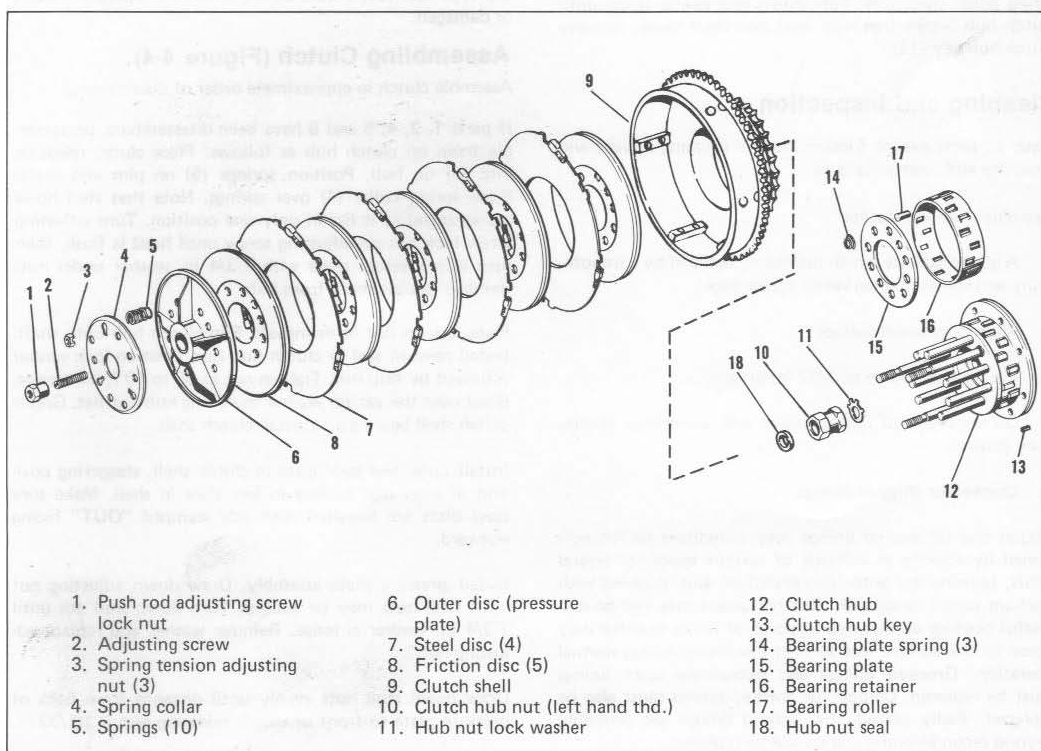

Figure 4-4. Clutch Assembly – Exploded View
DISASSEMBLING CLUTCH (Figure 4-4)
Assembling Clutch (Figure 4-4)
Place oil drain pan under transmission. Remove starter cover nuts (1) and plain washers (2). Loosen clutch adjusting screw (2, Figure 4-4). If transmission is in chassis, remove clutch lever rod from left end of clutch release lever. Remove exhaust pipe and other components mounted on transmission cover studs. Cover assembly with clutch release lever assembly is then free to be pulled off mounting studs. With starter cover removed, push rod assembly (3) is free to be pulled out of mainshaft.